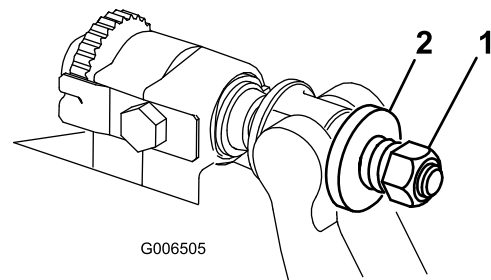

Figure 29
4. Tighten the spring tension nut until the spring is collapsed, then back off 1/2 turn (Figure 29).